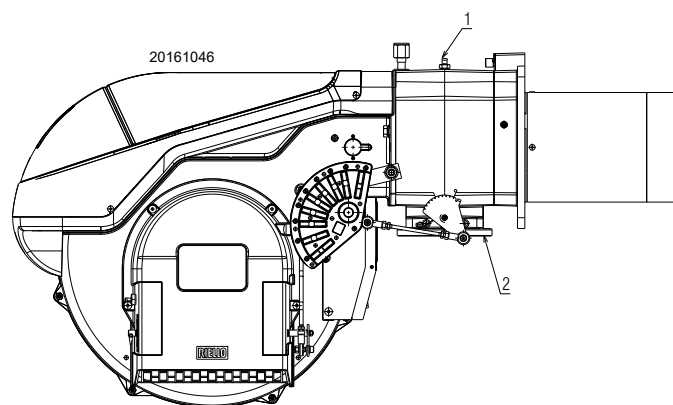

Fig. 19
Gas manifold pressure measured at test point 1)(Fig. 19), with:
- subtract the combustion chamber pressure from the gas pressure measured at test point 1)(Fig. 19).
- Gas pressure at test point 1)(Fig. 19) = 3.15 "WC